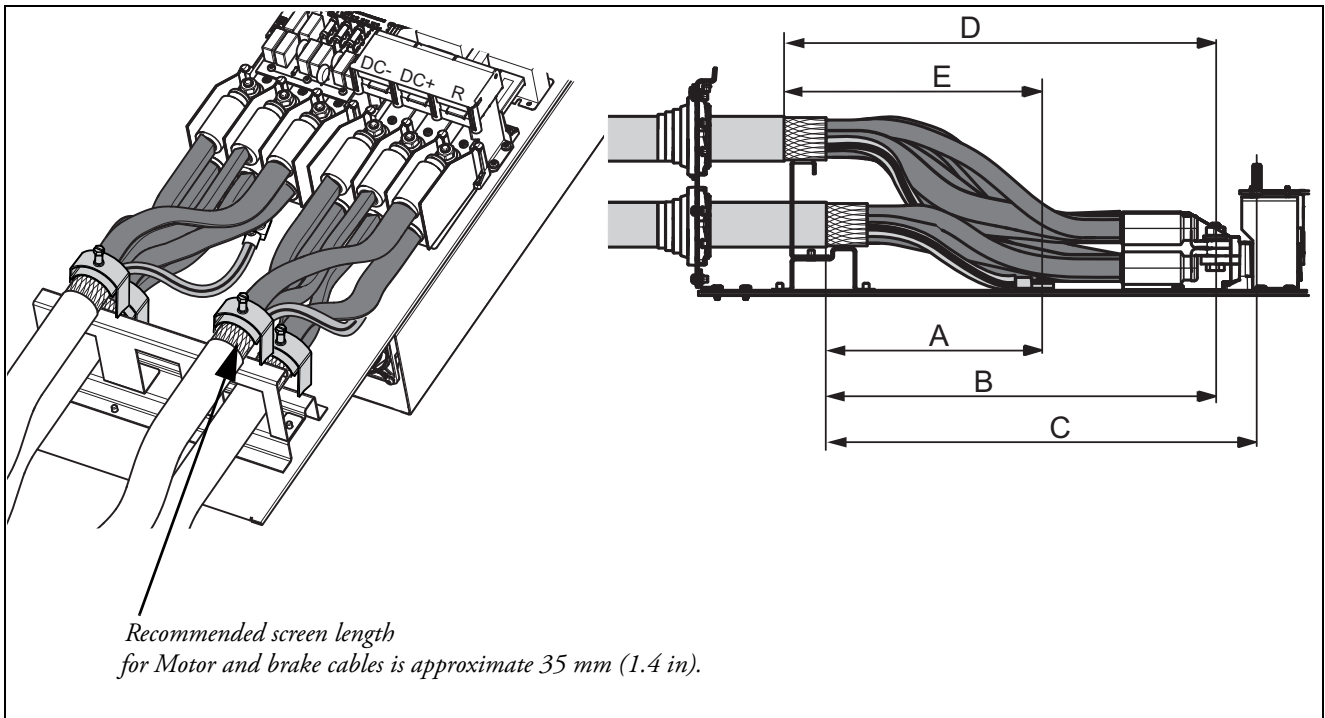

Fig. 61 Distances from the cable clamp to the connection bolts size FA.
4. Strip the cables according to Table 17 and Fig. 61.
3. Strip the cables according to Table 17 and Fig. 61.
Fig. 61 indicates the distance from the cable clamp to the connection bolts for decision of stripping lengths for the cables.